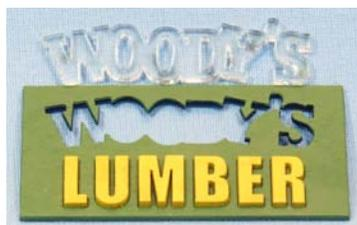

Fig. 9A
Next attach the acrylic spacer to the sign face with Cyanoacrylate (CA) as shown in Figs. 9A and 9B. The spacer is a very close fit, so you will want to test fit first to see where to apply the glue. Do not worry if some of the glue shows or runs to the back of the sign. You can touch up the front with paint. If you are going to weather the sign any exposed glue is going to be hidden.